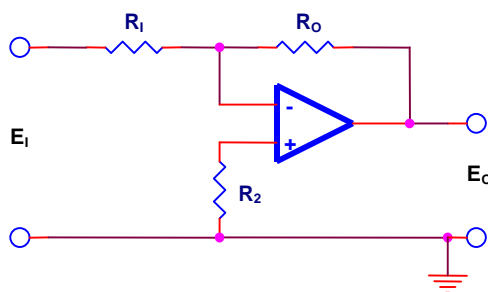

Figure 51. Drift Stabilizing the Inverting Amplifier
In some Texas Instruments operational Amplifiers, input connections are made directly to the bases of a matched pair of input transistors. Thus, variations in base current and emitter to base voltage caused by external changes, i.e. temperature, will tend to cause both input transistors to vary in the same direction. Since the base currents must flow to ground through the external feedback network, drift effects can be minimized by: (1) using the lowest resistance levels consistent with input impedance requirements and output current capability; and (2) balancing the resistances from the two inputs to ground. For the amplifier shown in figure 51, this latter consideration is satisfied by connecting a resistor from the non-inverting input to ground equal to the equivalent resistance from the inverting input to ground.